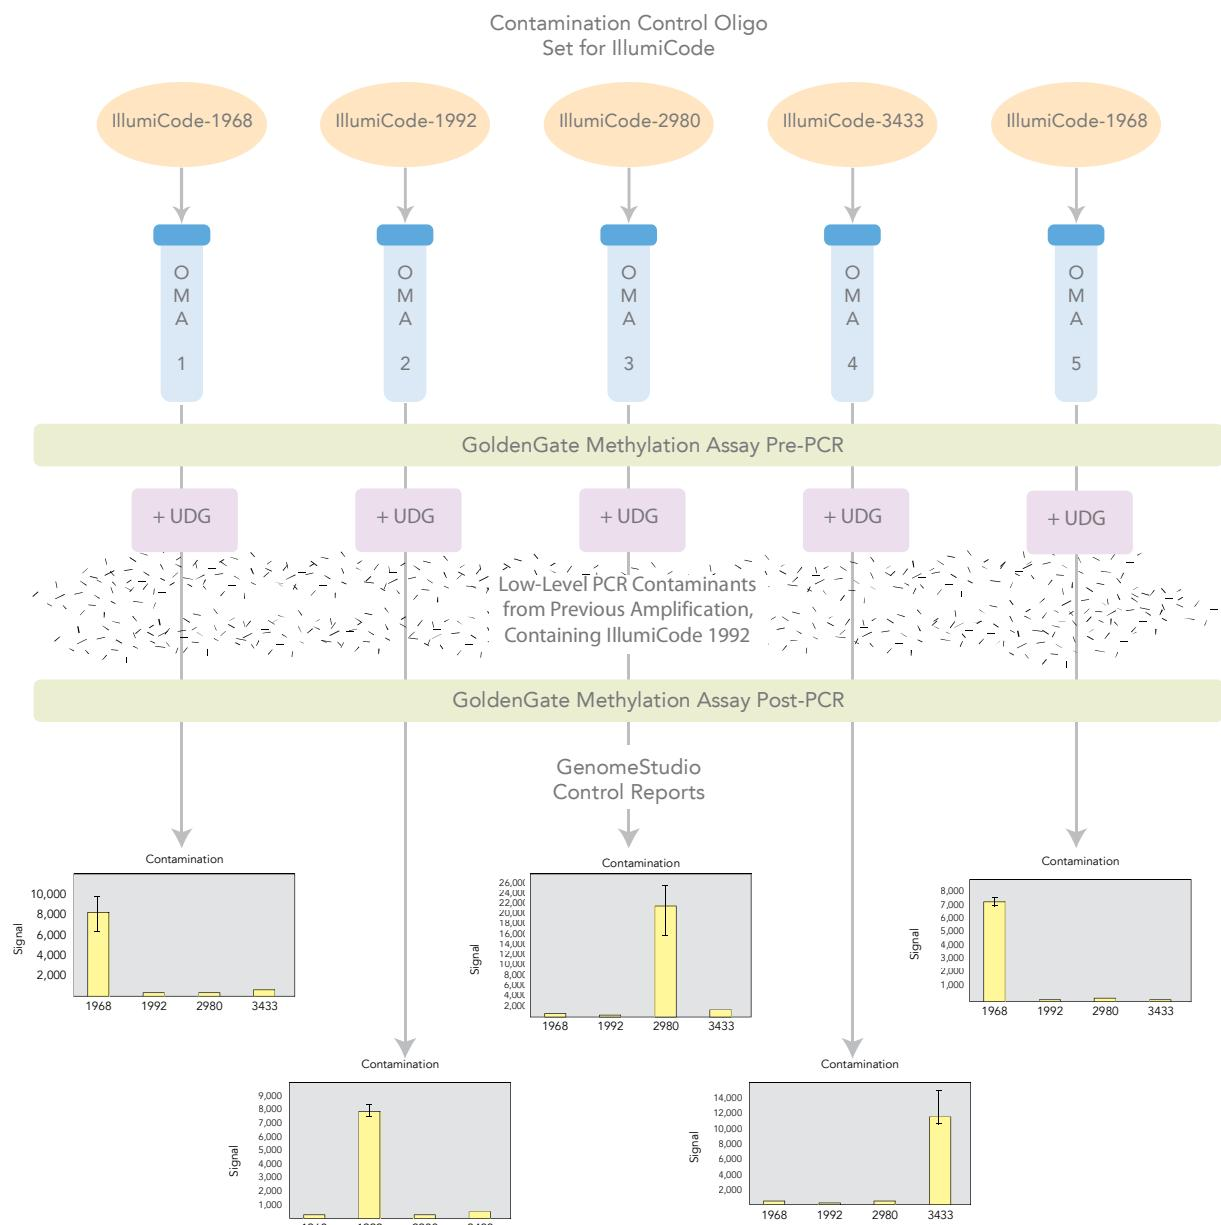

Figure 142 Contaminated Environment With UDG Treatment
- ▶ Figure 142 represents a contaminated environment with UDG treatment.